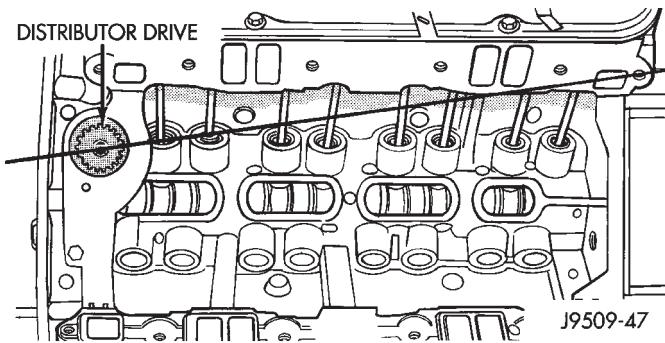

Fig. 36 Position of Oil Pump Shaft Slot
- (1) Rotate crankshaft until No.1 cylinder is at top dead center on the firing stroke.
- (2) When in this position, the timing mark of vibration damper should be under "0" on the timing indicator.
- (3) Install the shaft so that after the gear spirals into place, it will index with the oil pump shaft. The slot on top of oil pump shaft should be aligned towards the left front intake manifold attaching bolt hole (Fig. 36).
- (4) Install distributor, refer to Group 8D, Ignition Systems for the proper procedure.